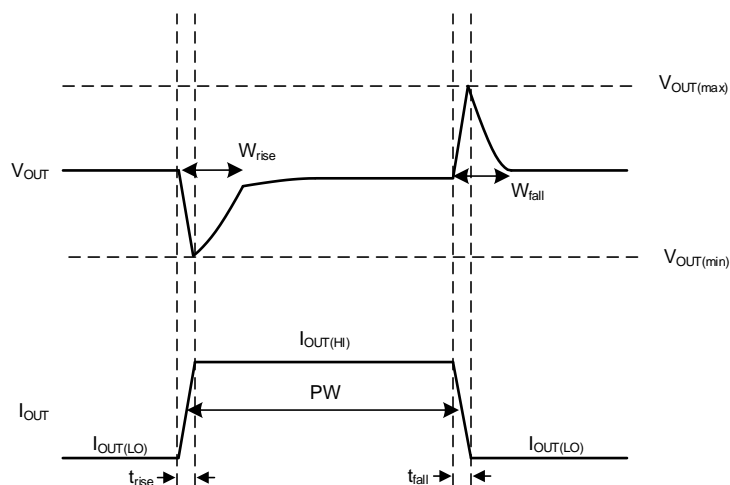

Figure 59. Simplified Load Transient Waveform
The transient response peaks ( $V_{OUT(max)}$  and  $V_{OUT(min)}$ ) are improved by using more output capacitance; however, using more output capacitance slows down the recovery time ( $W_{rise}$  and  $W_{fall}$ ). Figure 59 shows these parameters during a load transient with a given pulse duration (PW) and current levels ( $I_{OUT(LO)}$  and  $I_{OUT(HI)}$ ).